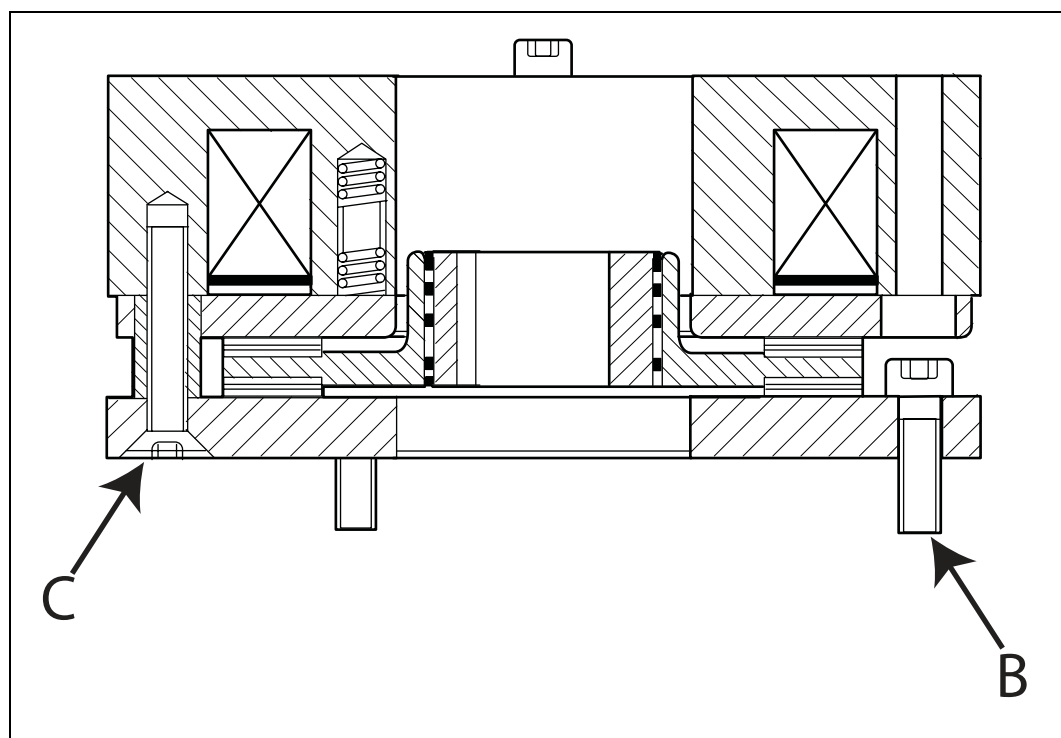

Figure 11.2 Electric brake (2006w47-)
- Undo the three retaining screws, pos B in figure 11.2.